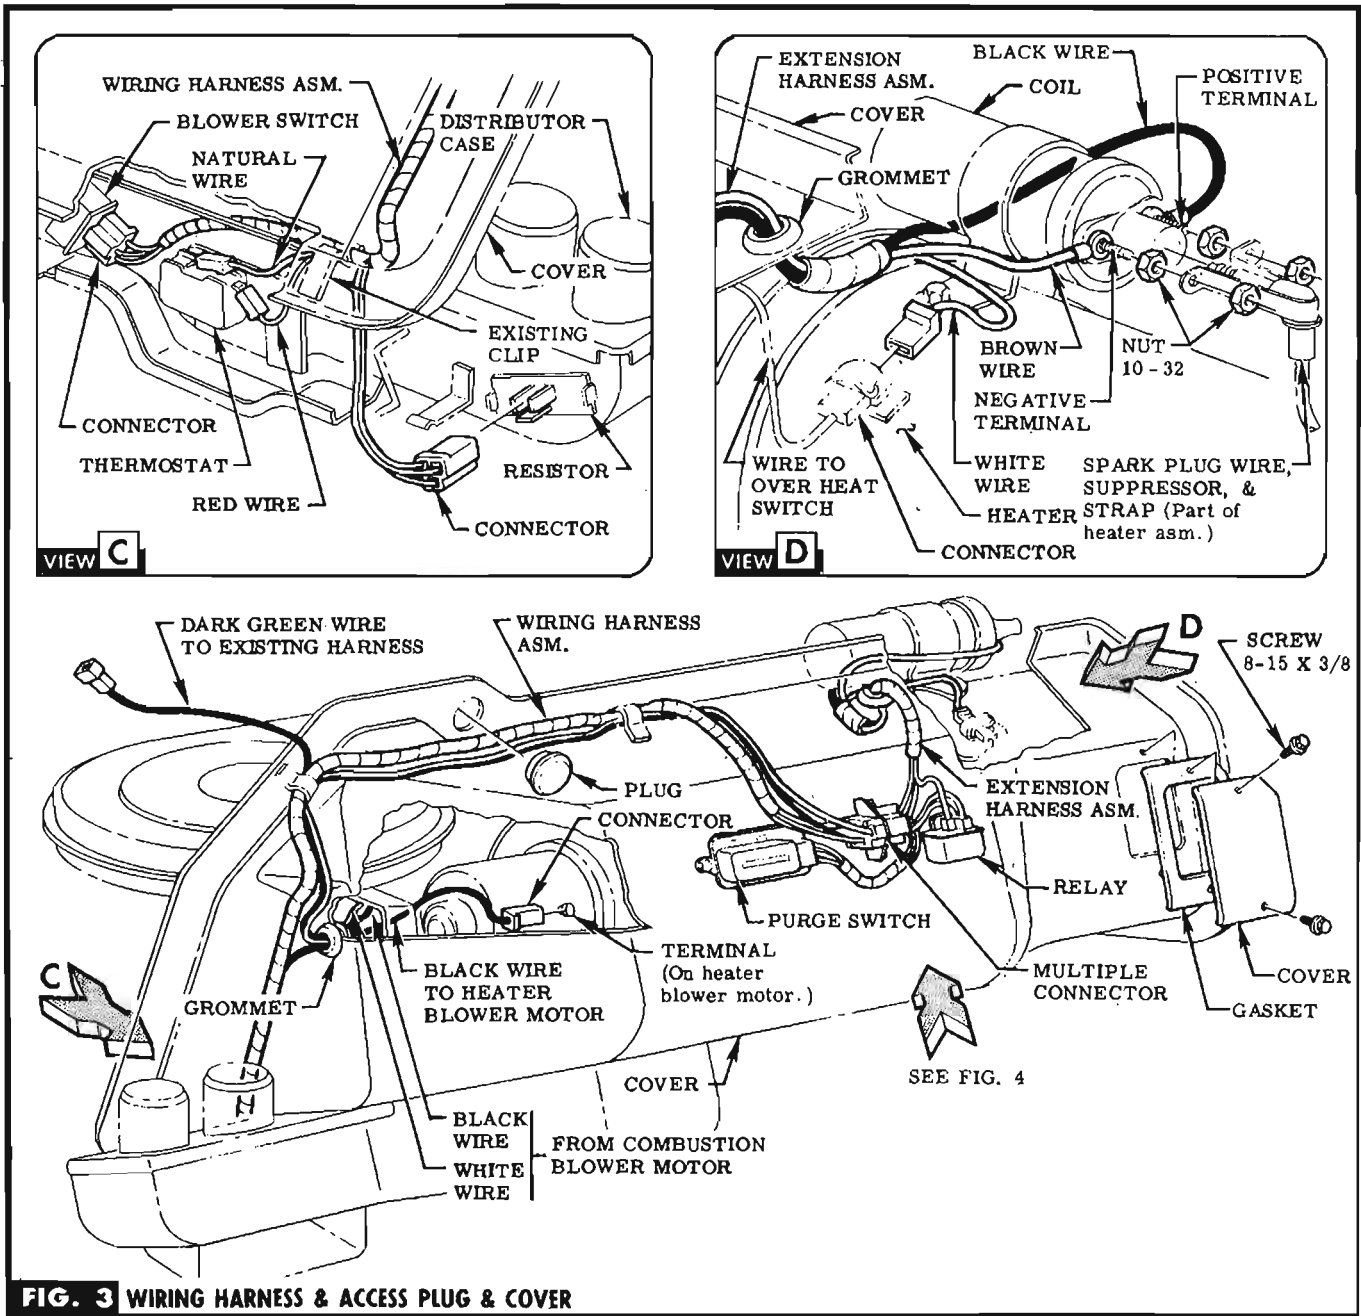

FIG. 3 WIRING HARNESS & ACCESS PLUG & COVER
STEP 14 INSTALL GROMMETS PROVIDED (IN BAG B) IN COVER & ROUTE BLACK WIRE CONNECTOR FROM HARNESS, THRU GROMMET & PLUG ONTO BLOWER MOTOR TERMINAL. SEE FIG. 3 & VIEW D.
ALONG WITH HARNESS. FIT INTO EXISTING CLIPS ON TOP OF COVER ASM. SEE FIG. 3.
STEP 16 ROUTE EXTENSION HARNESS THRU GROMMET TO HEATER COIL & PLUG WHITE JUMPER WIRE CONNECTOR INTO OVERHEAT SWITCH WIRE CONNECTOR. SEE FIG. 3 & VIEW D.
STEP 18 INSTALL PLUG (RETAINED FROM DISCARDED HEATER HOLE COVER) & ATTACH ACCESS COVER USING SCREWS & GASKET PROVIDED (IN BAG C). SEE FIG. 3.